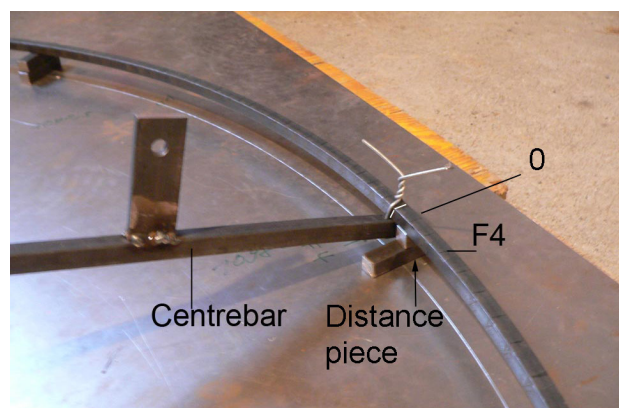

Fig. 51: Centrebar fixation
**Step 9** Lift the frame pieces with distance pieces of same thickness to keep the Fcbs from touching the template. See Fig.51